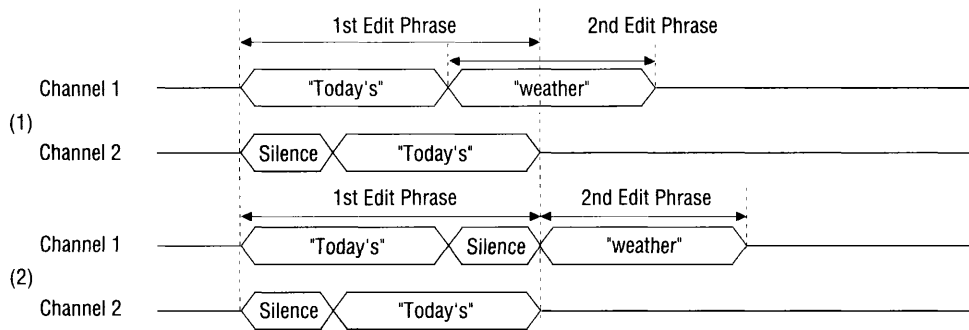
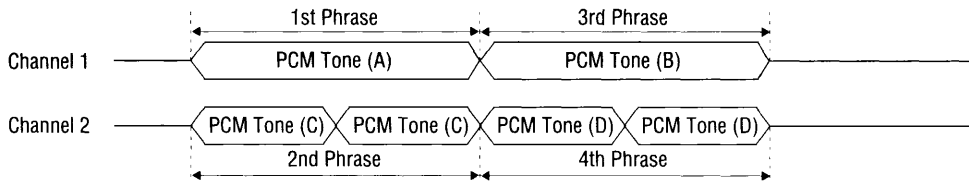

Figure 2 Example of Random Vocalization Timing
Figure 10 Channel Synthesis between PCM Main Melody Tone (A) (B) and PCM Rhythm Tone (C) (D) with 2 Repeats
Random play requires the channel setting for the 1st and 2nd edit phrases to be the same. Random play cannot be used during channel 2 play or echo play without the use of the silence insertion technique shown in figure 10 item (2). Figure 2 item (1) shows the overlapping of the 2nd edit phrase in channel 1 with the echo playback of channel 2. Item (2) shows how silence is inserted after the 1st edit phrase in channel 1 to avoid overlapping of the 2nd edit phrase with channel 2 playback.